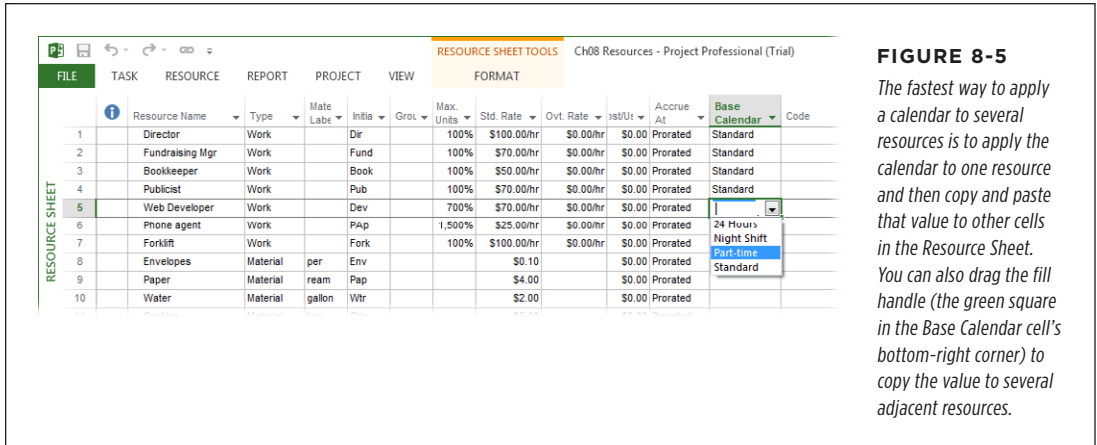

FIGURE 8-5
- **Apply a calendar in Resource Sheet view.** Click the resource's Base Calendar cell (if the column is narrow, then you may see only the word "Base") and then, in the drop-down list, choose the calendar you want to apply, as shown in Figure 8-5.